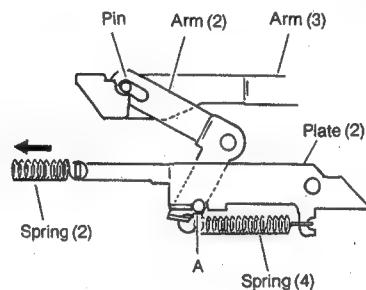

Fig. 4
4. Arm (2) is designed to cause vertical cassette movements. In eject position, Arm (2) locks Plate (2) at point A, and, by tension of Spring (2), is left at the position where Plate (2) comes to a stop (see Fig. 4).